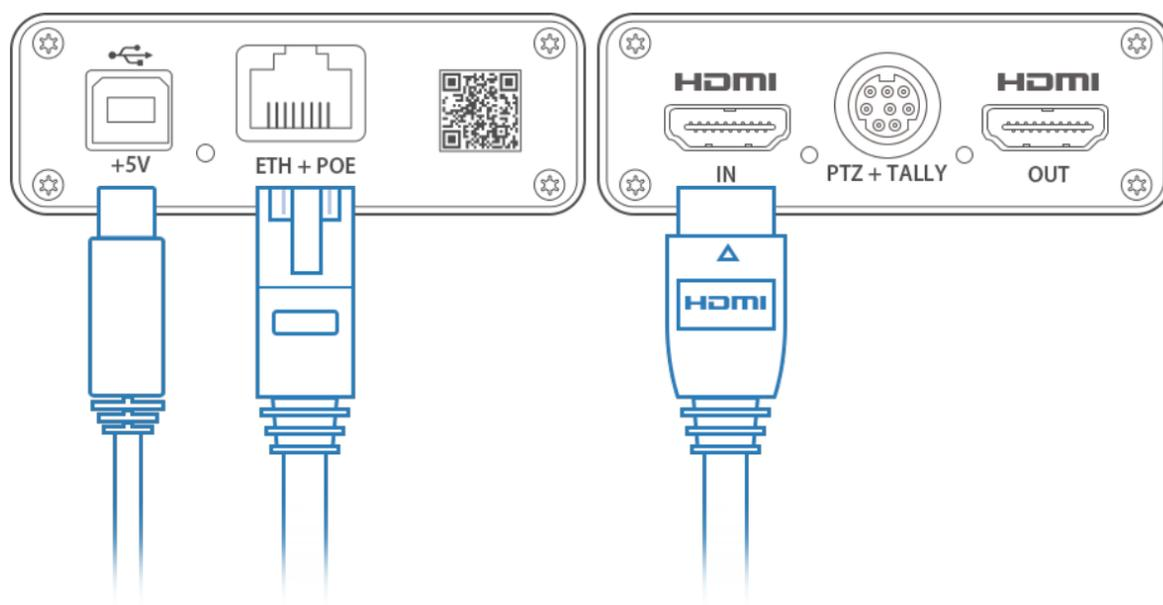

Figure1. Connections
Step 1 Connect your converter via Ethernet and power it up as shown on the left - Figure1. Connections.